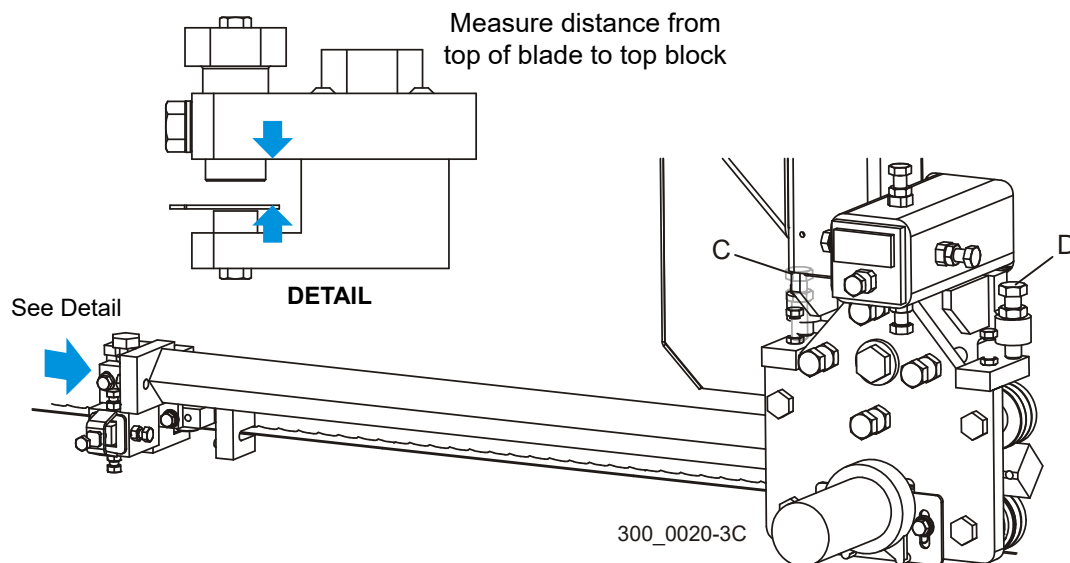

FIG. 6-34
See Figure 6-34. With the blade guide arm adjusted in near the inner blade guide, measure the distance from the top of the blade to the top blade guide block. Adjust the blade guide arm all the way out and measure again. If the two measurements are not equal with $1/32"$, adjust the vertical tilt of the blade guide arm. To adjust the vertical tilt of the arm, adjust the bolts (C & D) on the blade guide arm mounting plate. Loosen the jam nuts. Adjust bolt (C) up and bolt (D) down to tilt the arm up. Adjust bolt (D) up and bolt (C) in to move the arm toward the blade. Recheck the distance from the blade to the top block at